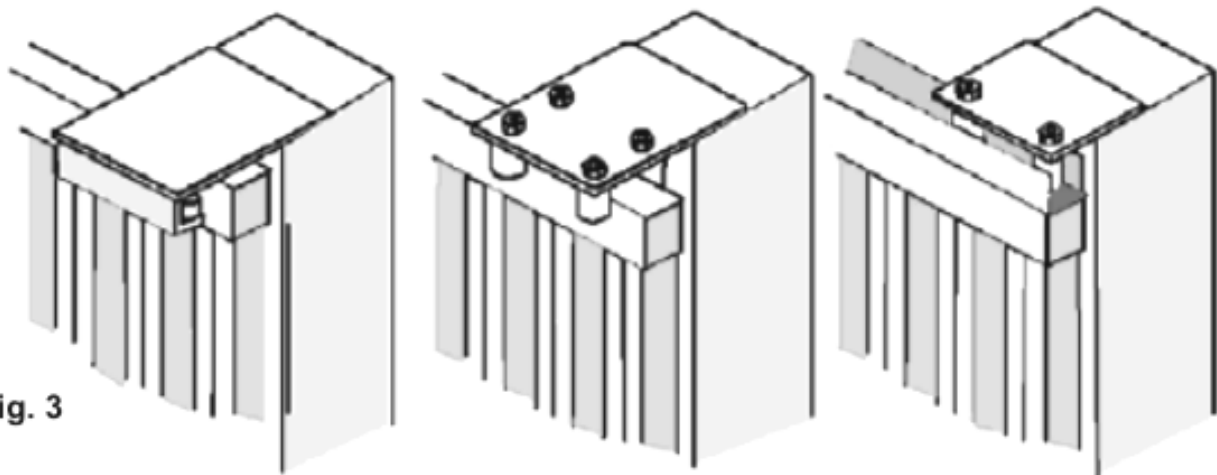

Fig. 3
- Check the upper runner ( **see Fig. 3** ) is firm and the gate slides freely.